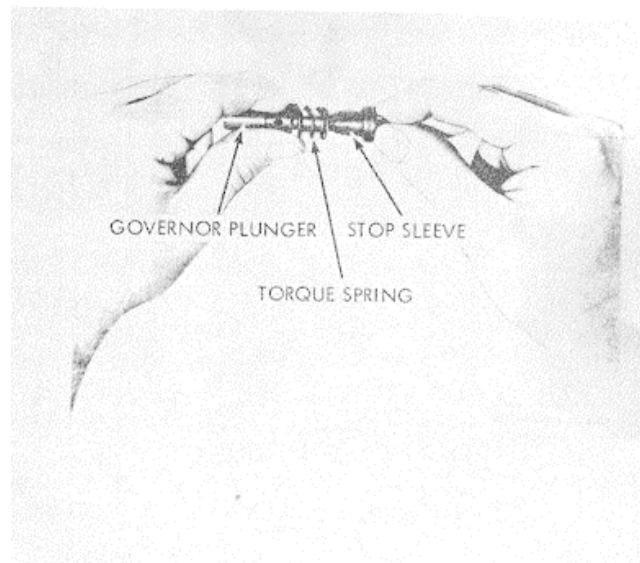
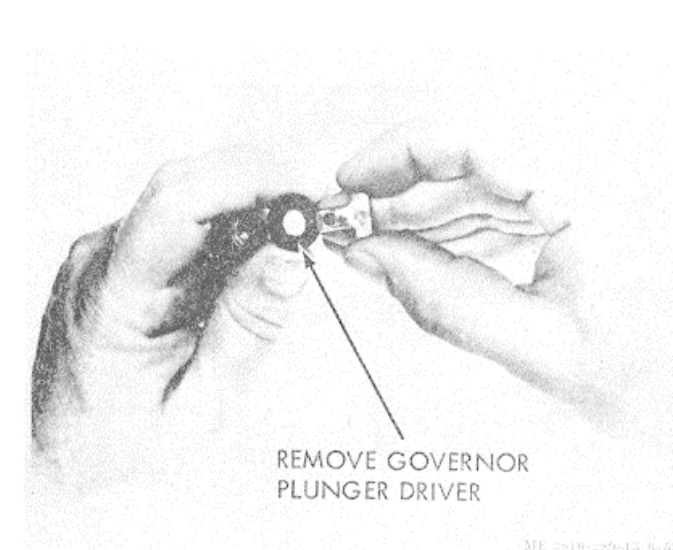

Figure 3-55. Torque spring removal.
Figure 3-56. Governor plunger driver removal.
(1) If necessary, remove torque spring by twisting spring off shoulder. Do not use a straight pull which will stretch spring beyond its elastic limit so it has to be replaced, figure 3-55.
(2) If governor plunger O.D. is worn, replace as an assembly.
(3) If only thrust washer is worn, drive retainer pin from plunger and pull governor plunger driver from plunger, figure 3-56.
(1) If stop sleeve was removed, press stop sleeve on plunger with notched end going on plunger first (notches toward governor barrel), figure 3-55.
(2) Assemble plunger driver through thrust washer and drive into plunger. Driver must have interference fit in plunger.
(3) Drive retainer pin through the plunger and plunger driver.